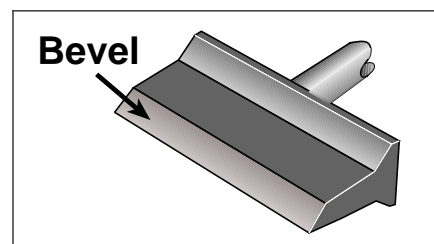

Figure 2 Use Beveled Edge
6. Place the beveled edge lightly across the center of the row of lands. (See Figure 2.)